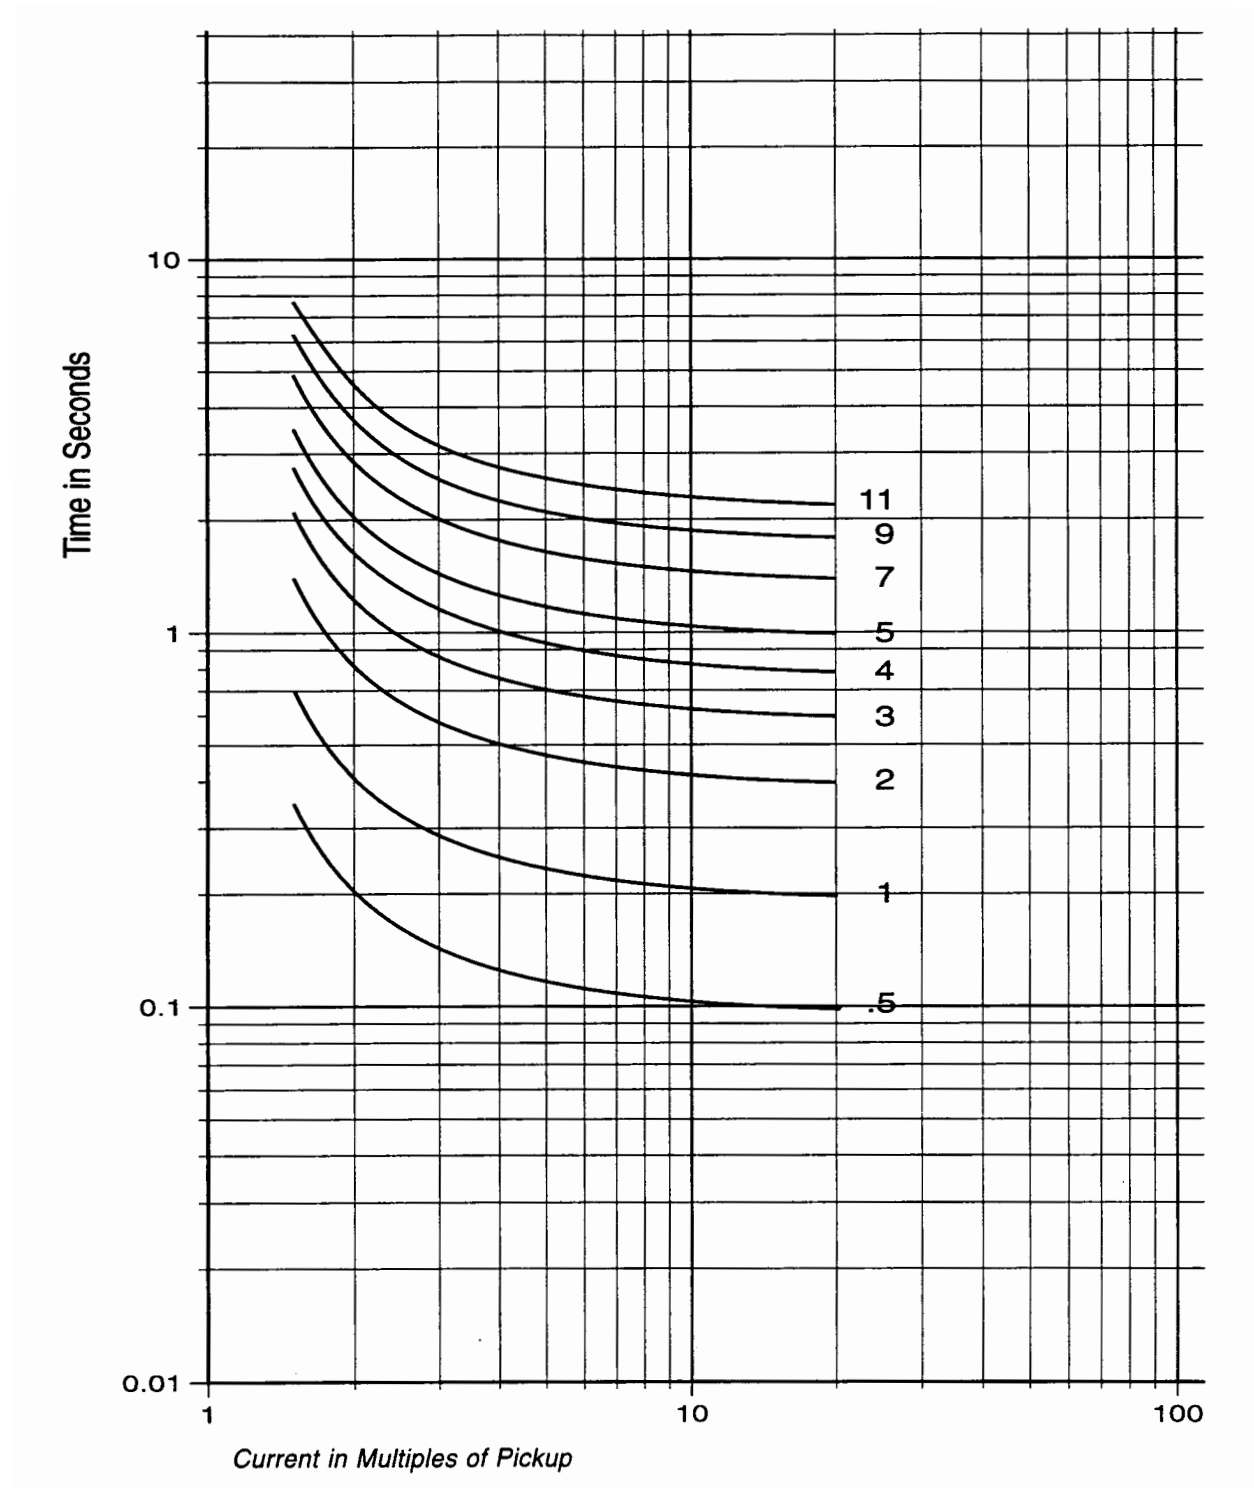

Figure D-5 Definite Time Overcurrent Curve
This Appendix contains two sets of Inverse Time Curve Families. The first set is used for Volts per Hertz functions (Figures D-1 through D-4), and the second set is for the M-3310 functions which utilize the IEC time over current curves (Figures D-5) through D-8).
■ **Note:** Figures D-1 through D-4 are Volts per Hertz curves. Figures D-5 through D-12 are 51, 51N, 51G and 46 functions.